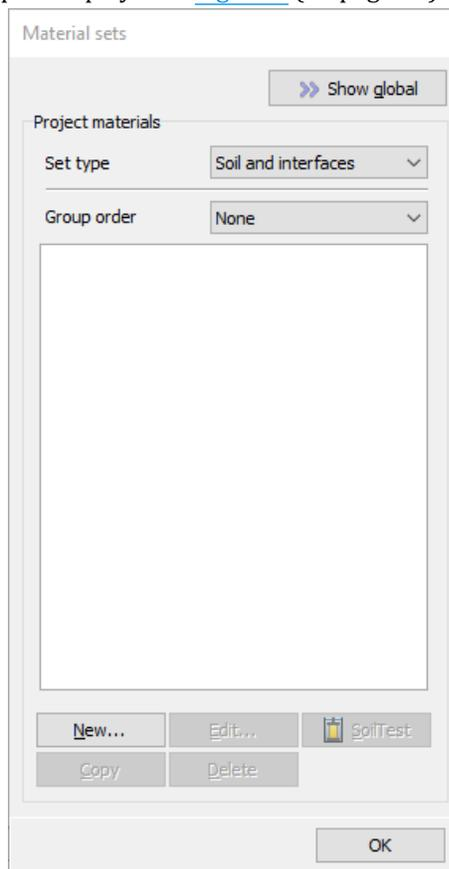

Figure 6: Material sets window
1. Click the **Materials** button  in the **Modify soil layers** window or in the side toolbar. The **Material sets** window pops up as displayed in Figure 6 (on page 14).